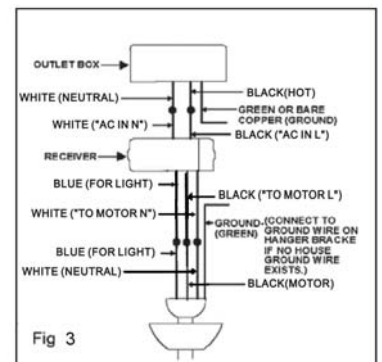

Fig 3
**Step 2.** Motor to Receiver Electrical Connections: Connect the WHITE wire from the fan to the WHITE wire marked "TO MOTOR N" from the Receiver. Connect the BLACK wire from the fan to the BLACK wire marked "TO MOTOR L" from the Receiver. Connect the BLUE wire from the fan to the BLUE wire marked "For Light" from the Receiver. (Fig. 3)
**Step 3.** Receiver to House Supply Wires Electrical Connections: Connect the WHITE wire (Neutral) from the outlet box to the WHITE wire marked "AC IN N" from the receiver. Connect the BLACK wire (Hot) from the outlet box to the BLACK wire marked "AC IN L" from the receiver. Secure all wire connections with the plastic wire nuts provided. (Fig. 3)